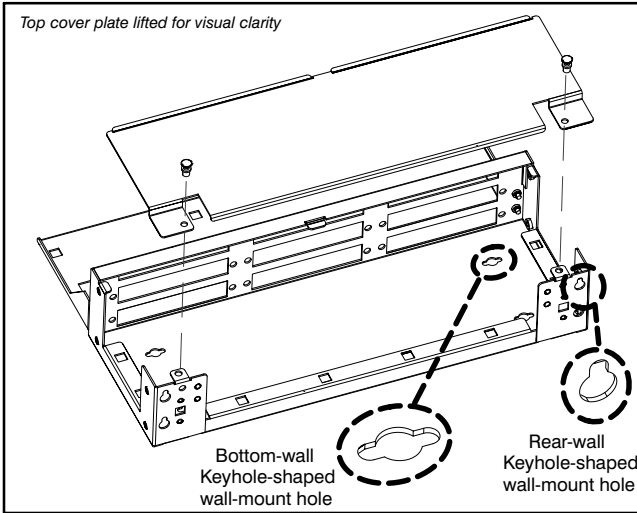
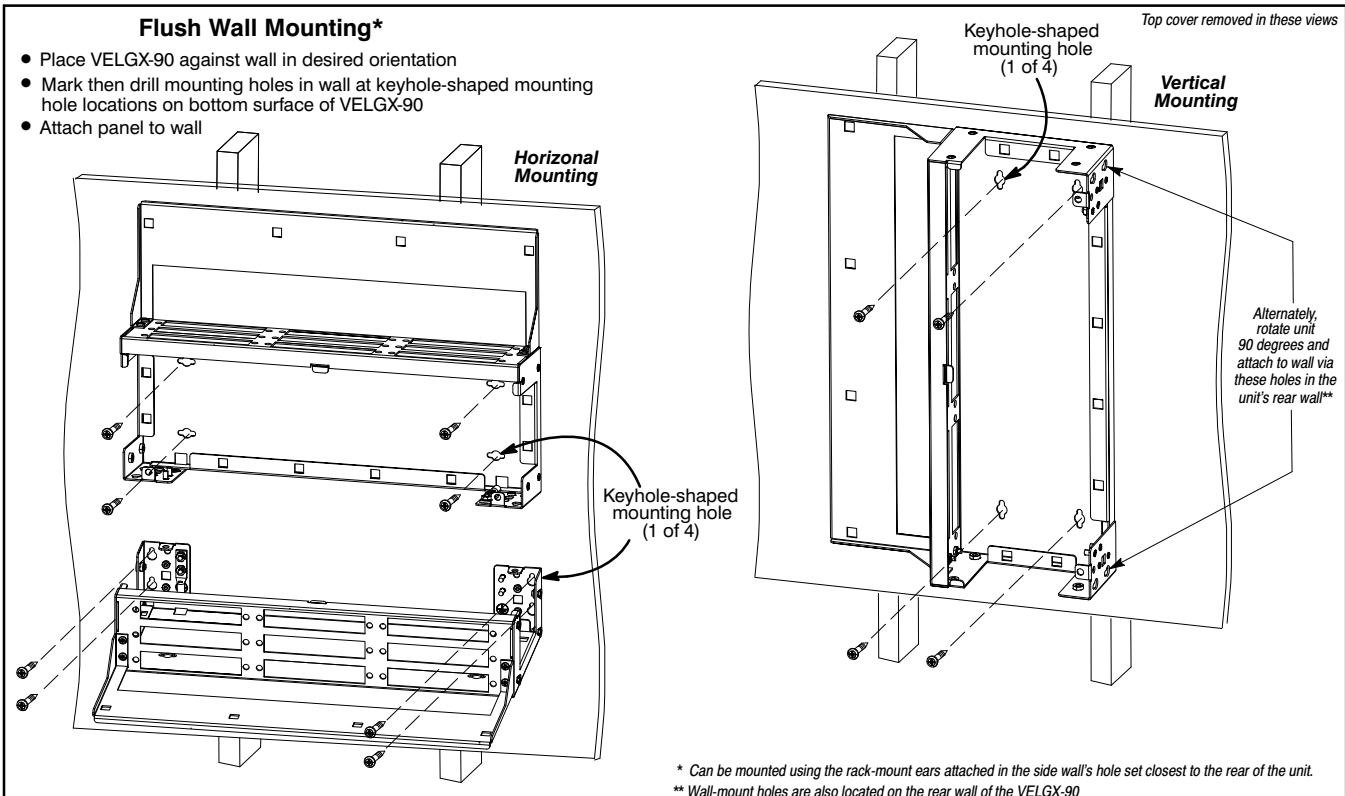

Figure 7. Top/Rear View Showing Keyhole Mounting Holes
Figure 8. Typical Wall Mounting Views, Mounting Ears Not Used
The VELGX-90 can be flush-mounted horizontally or vertically on a wall or backboard using the keyhole-shaped mounting holes on either the bottom surface or on the rear wall of the unit (see Figure 7); or alternately, the mounting ears can be attached near
1. **Determine position on wall.** Select the mounting location on the approved wall. The VELGX-90 may be mounted horizontally or vertically with the large bottom surface abutting the wall (Figure 8), or with the smaller rear surface abutting the wall (Figure 7).